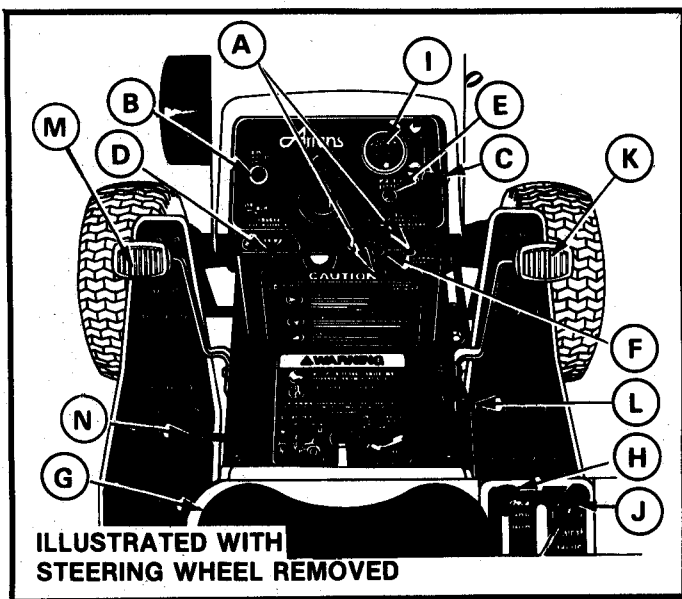

FIGURE 9
A IMPLEMENT POWER CONTROL SWITCH — FIGURE 9
B IMPLEMENT POWER INDICATOR LIGHT — FIGURE 9
C THROTTLE LEVER — FIGURE 9
D IGNITION SWITCH — FIGURE 9
E CHOKE CONTROL — FIGURE 9
F LIGHT SWITCH — FIGURE 9
G SEAT INTERLOCK SWITCH — FIGURE 9
H HYDRAULIC LIFT CONTROL LEVER — FIGURE 9
J HYDROSTATIC CONTROL LEVER — FIGURE 9
K BRAKE PEDAL — FIGURE 9
L PARKING BRAKE — FIGURE 9
M NEUTRALIZER PEDAL — FIGURE 9
N LIFT SELECTOR — FIGURE 9
3. Raise Throttle Lever to approximately 1/3 open position as shown in Figure 9.
4. Pull Choke Control, Figure 9, all the way out if the engine is cold. If engine is warm, little or no choke will be required.
5. Turn ignition key shown in Figure 9, clockwise all the way. Release key as soon as the engine starts and push Choke Control "IN". In extremely cold weather it may be necessary to push Choke "IN" gradually until engine warms up. If engine fails to start on the first attempt, turn key to "OFF", wait a few minutes and try again. Do not operate the starting motor continuously for more than 30 seconds at a time. **ALWAYS ALLOW ENGINE TO WARM UP BEFORE APPLYING LOAD.**
10. With the Hydraulic Lift Lever, Figure 9, lower tiller to operating depth. Use "FLOAT" position for tilling.